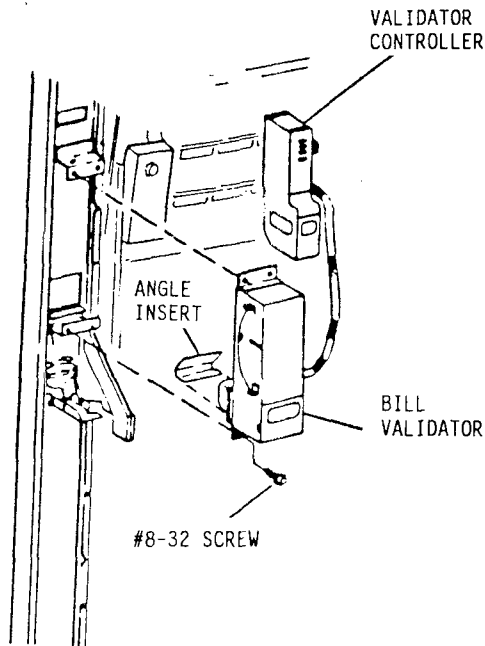

FIGURE 4a
A. INSTALLATION OF VALIDATOR (See Figure 4A and Insert)